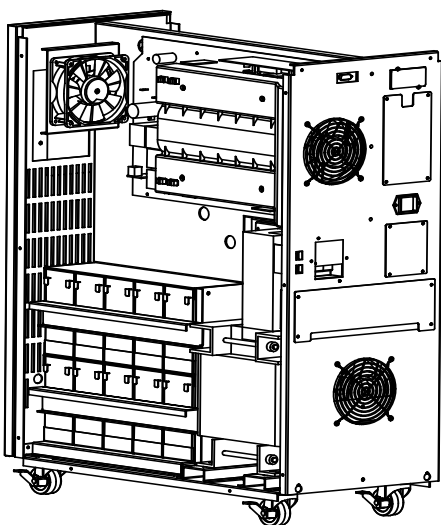

Figure 3.3
**STEP 3:** Done, as shown in Figure 3.3.